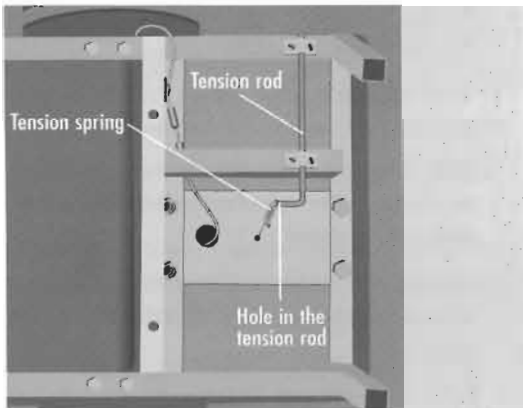

Figure 7
2. Attach the tension spring below the upper-body exerciser to the small hole in the tension rod (Figure 7). Be sure that the hole in the tension rod extends toward the rear of the base.